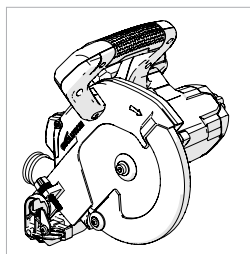

Fig. 5
- The cutting head (In The 'locked down Position as Removed from the Packaging) **(Fig. 5)**